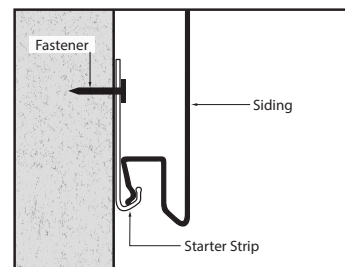

Figure 5.1.1
- Apply the first plank by dropping the bottom lock of the plank into the Starter Strip. Take care to ensure the plank is fully engaged and level in the Starter Strip as this is the base for all other planks that will follow. (Figure 5.1.1)